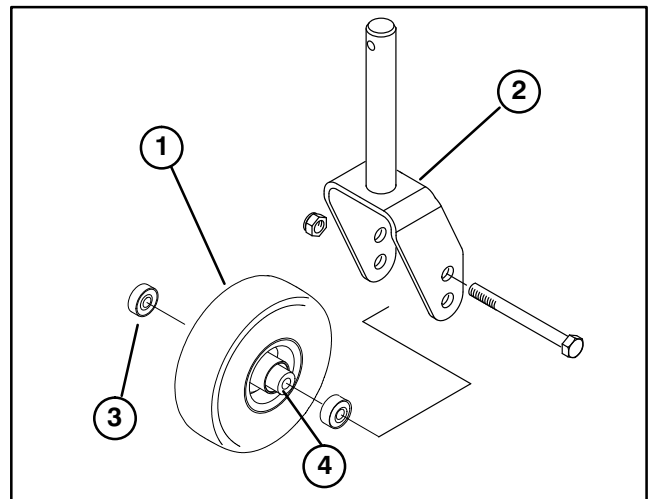
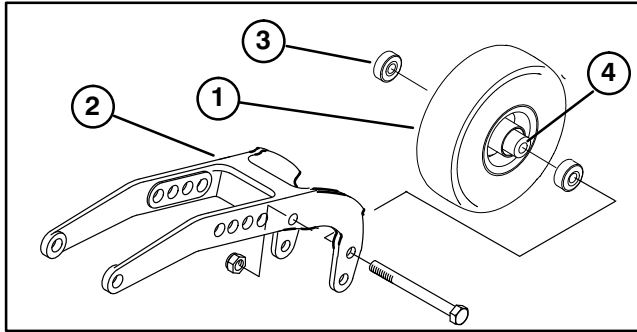

Figure 75
Figure 76
SERVICING CASTOR WHEELS AND BEARINGS (Fig. 75–76)
1. Remove locknut from capscrew holding castor wheel assembly between front castor fork (Fig. 75) or rear castor pivot arm (Fig. 76) Grasp castor wheel and slide capscrew out of fork or pivot arm.